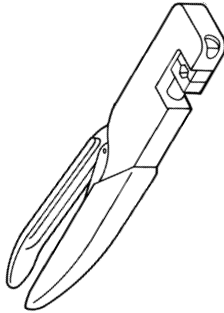

Figure 32. Crimp Tool M22520/5-01 and M22520/10-01
- (1) Wire is visible through the inspection hole in wire barrel.
- (2) Position of crimp impressions is midway on wire barrel.
- (3) Contact is not bent or distorted.
- (4) Contact wire barrel is not cracked and plating is intact.
84. **GENERAL DESCRIPTION.** These tools are discussed together due to their similarity. These are open frame crimp tools using interchangeable dies. The M22520/5-01 is 11 inches maximum and weighs 2 pounds maximum, and the M22520/10 is 9 inches maximum and weighs 1.5 pounds maximum (Figure 32).